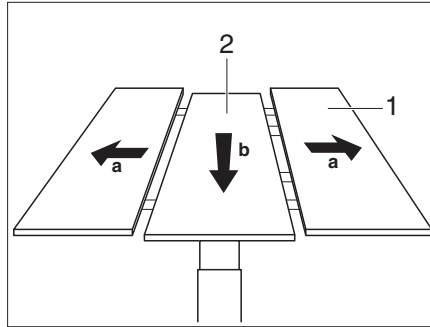

Fig. 100 Moving the middle part up
- Pull the outer parts (Fig. 100,1) of the table apart.
- Push the middle part (Fig. 100,2) of the table firmly downwards. The middle part is pushed upwards through the spring force.
- Push the middle part (Fig. 100,2) of the table firmly downwards. The middle part latches into the lower position.